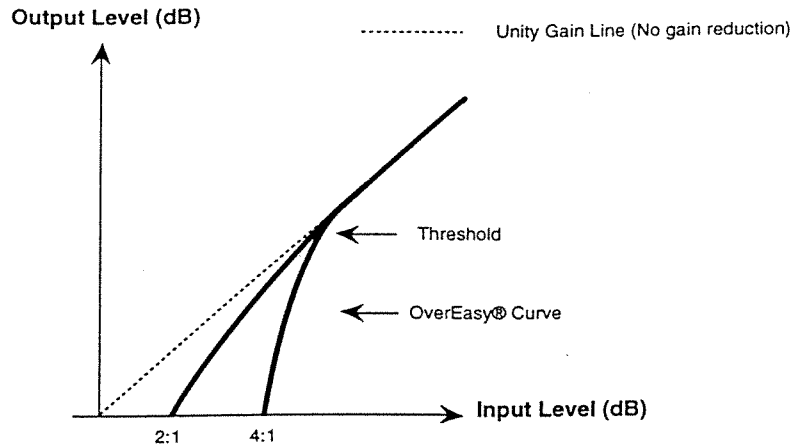

Figure 1: Expander/Gate OverEasy® Threshold Characteristic
**Expander/Gate Ratio Control** This control sets the expansion ratio and varies from 1:1 to 8:1. It is important to note that as the signal passes below the threshold, the input/output gain relationship does not transition sharply from unity gain (where no expansion is occurring) to the ratio set by the EXPANDER RATIO control. The 1086's expander utilizes a soft-knee OverEasy® threshold circuit analogous to the OverEasy® compressor curve made famous by the 1086's predecessors and employed in the compressor section of the 1086. See *Figure 1*. This soft knee contributes to the smooth and natural sounding decay of the 1086 expander making its action virtually transparent with low to moderate ratio settings. When hard gating is required, higher ratio settings cause the expander to function like a gate. The expander attack and release times are program-dependent. The detector intelligently senses the need for fast attack for rapidly-changing signals, and slows down for more stable signals.